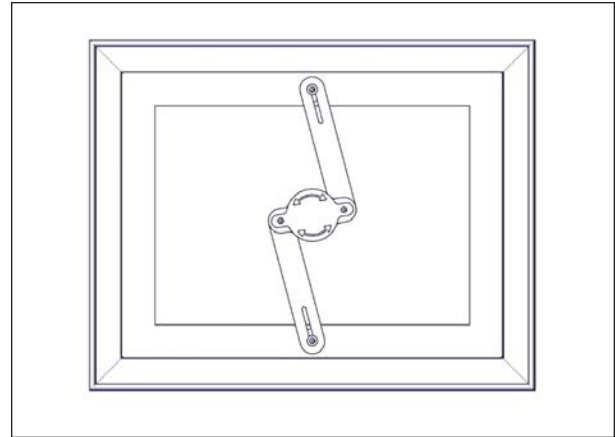

FIGURE 106: INSIDE HANDLE
1. Turn the red handle by a quarter turn in either direction to retract the arms, see Figure 106.